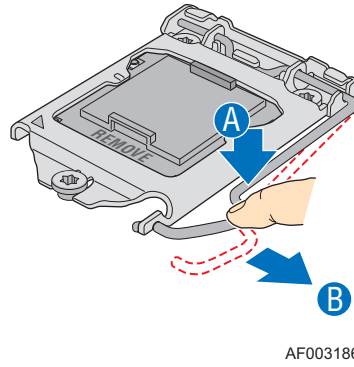

Figure 11. Lifting the Load Lever
5. Locate the processor socket and open the socket lever (see Figure 11).